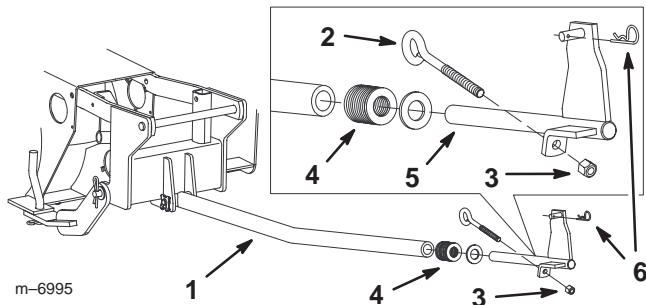

Figure 11
2. Install the eyebolt and locknut (3/8 inch) to the end of the lift tube (Fig. 11). Install the eyebolt so it is flush with the locknut.
3. Install 11 washers (5/8 inch) onto the lift rod and then install the lift rod into the lift tube (Fig. 11 and 21).